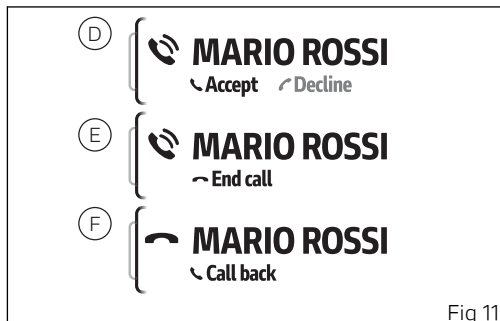

Fig 11
When you receive a call, a window is shown with the name or number of the caller as well as the items "Accept" and "Decline" (D, Fig 11).
When a call is in progress, a window is shown with the name or number of the contact as well as the item "End call" (E, Fig 11). To end the call, press the ENTER button (3).
At the end of a call or after declining an incoming call, the window (F, Fig 11) will be displayed for 5 seconds with the name or number of the contact and "Call back": press ENTER button (3) to start the call.